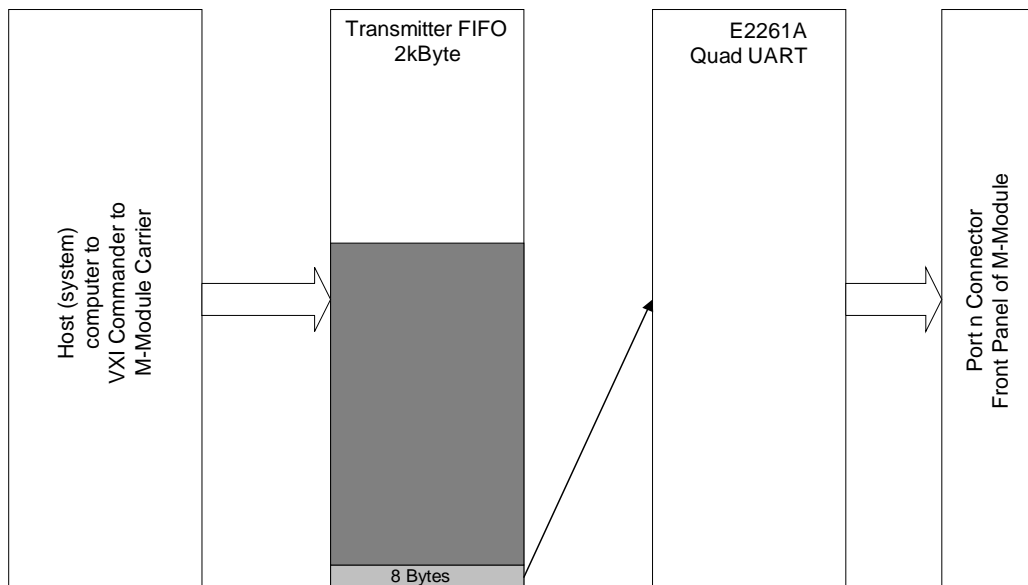

Figure 4-3. Transmitter Data Flow
The following discussion describes general transmitter operation. If you are not using the supplied driver (either SCPI or *VXIplug&play*), then you must follow these guidelines. Refer to Figure 4-3.
2. The host then sends data to be transmitted to the Port Transmit/Receive Register (Register Address 40_h, 42_h, 44_h, or 46_h). This automatically sends the data to the Transmit FIFO (See Figure 4-3). If the Transmit FIFO changes from more-than-half-full to half-full, an interrupt occurs, the host (system) computer can then send up to 1kBytes of data. If the transmitter FIFO changes from non-empty to empty, an interrupt occurs, and the host can send up to 2kBytes of data.